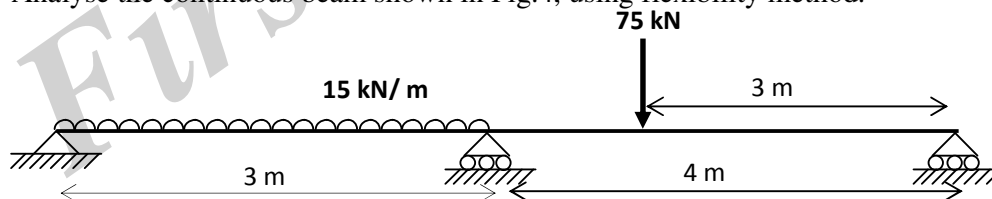

Fig.4
7. Analyse the continuous beam shown in Fig.4, using flexibility method.